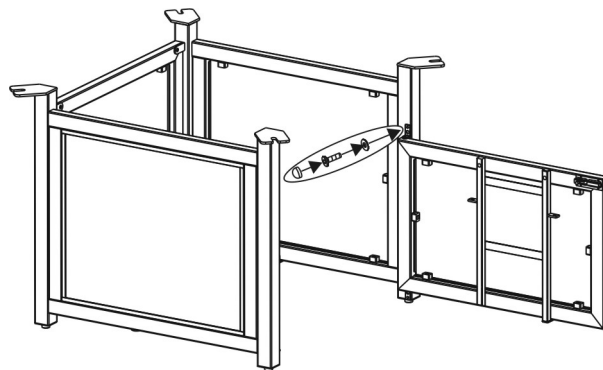

Figure 5
5. Put the door onto the bottom connector by guiding the pin on the connector into the hole under the door. Guide the pin on the top connector into the hole in the top side of the door. Use a 1/4"x15 mm bolt and washer to secure the top connector to the right side panel as shown in Figure 5. **Do not over-tighten.**